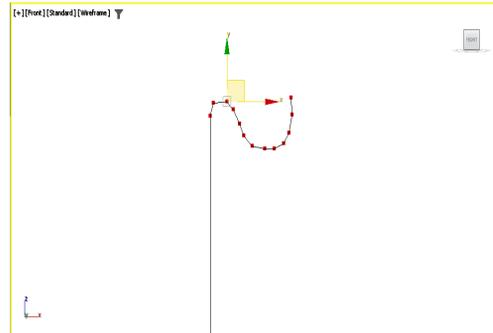

Figure 5-26 The selected vertices
5. Select the upper vertices of *pillar*, as shown in Figure 5-26 and then right-click; a quad menu is displayed. Choose **Smooth** from the quad menu; the upper portion of *pillar* is smoothed. Select the **Vertex** sub-object level again to exit the sub-object mode.